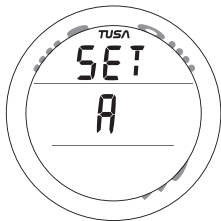

Fig. 36 - SET A
- > Depressing the A and S buttons simultaneously for 4 seconds while the NORM (or GAUG) Surface Main screen is displayed will access the Set A screen (Fig. 36).